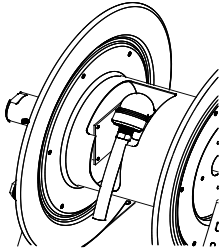
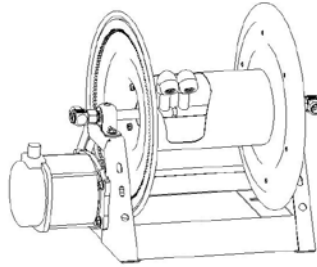

FIGURE 1.0
FIGURE 2.0
- Thread male hose fitting into outlet riser(s). Refer to figure 1.0 for single and figure 2.0 for double outlets. Note: Outlet riser is removable on 1195 series.